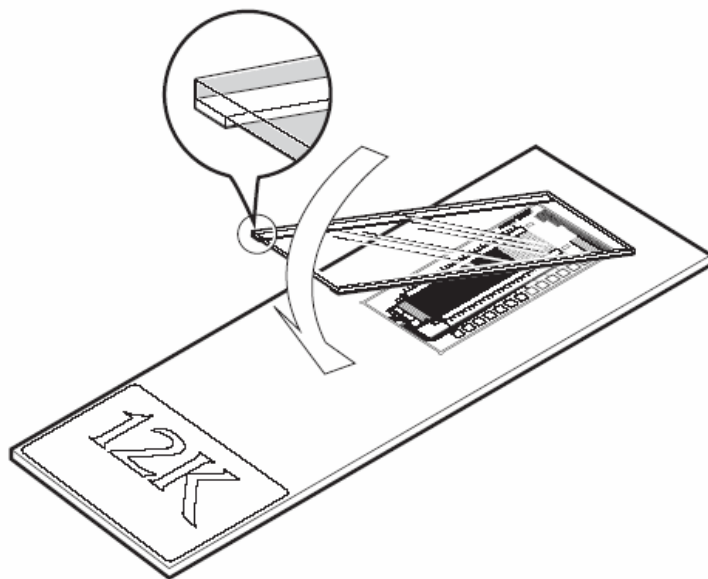

Figure 4. CustomArray™ 12K with LifterSlip™ coverslip
5. Lay the LifterSlip™ at an angle onto the microarray so that it is centered over the semiconductor area (see Fig. 4). First touch the Imaging Solution with one side of the LifterSlip™, then slowly lower the slip down, taking care not to introduce air bubbles. If bubbles still form, lift one side of the LifterSlip™ with forceps (or a razor blade) to let the bubbles out, and lower it down again.